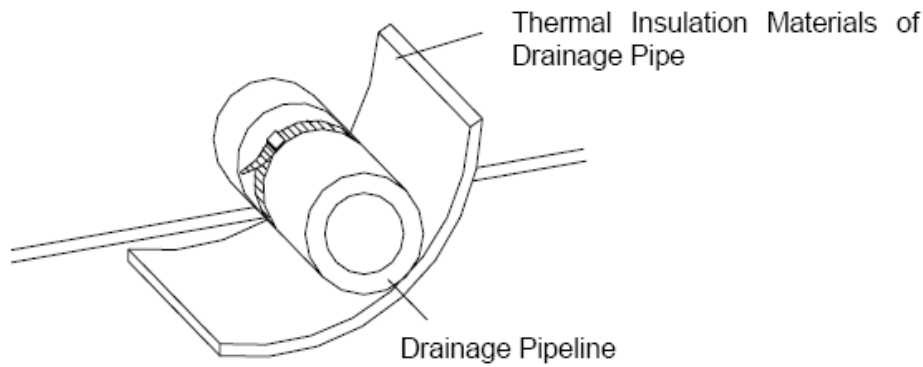

Fig.44 Thermal Insulation of Drainage Pipeline
(1) The Drainage Pipeline shall be installed with an inclining angel of  $5 \sim 10^\circ$ , so as to facilitate the drainage of condensate. The joints of the Drainage Pipeline must be covered by thermal insulation materials to avoid generation of exterior condensate. (As shown in Fig.44)
(2) A Drainage outlet is located at both the left and right sides of the indoor unit. After selecting one Drainage outlet, the other outlet shall be blocked by rubber plug. Bundle the blocked outlet with string to avoid leakage, and also use thermal insulation materials to wrap the blocked outlet.
(3) When shipped out from factory, both the Drainage outlets are blocked by rubber plugs.
(4) When connecting the drainage pipe with the unit, do not apply excessive force to the pipeline at the side of the unit. The fixing position of the pipeline shall be near the unit.
(5) Purchase general-purpose hard PVC pipe locally to be used as the drainage pipeline. When carrying out connection, place the end of the PVC pipeline into the drainage hole. Use flexible drainage tube and tighten it with thread loop. Never use adhesive to connect the drainage hole and the flexible drainage tube.
(6) When the laid drainage pipe is used for multiple units, the common pipe shall be about 100mm lower than the drainage outlet of each set of unit. A pipe with thicker wall shall be used for such purpose.